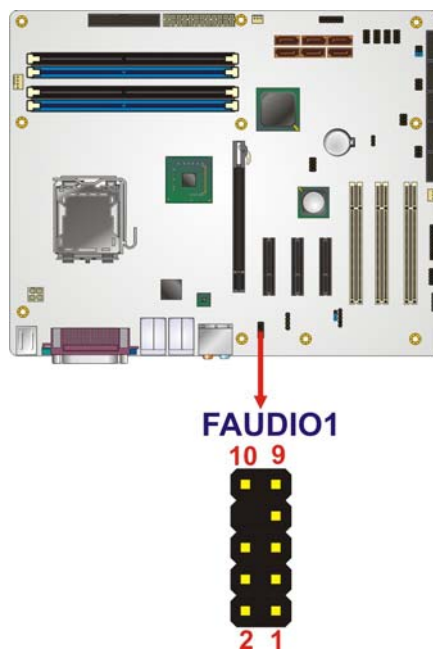

Figure 4-4: Audio Connector Pinouts
- CN Location:** See **Figure 4-4**